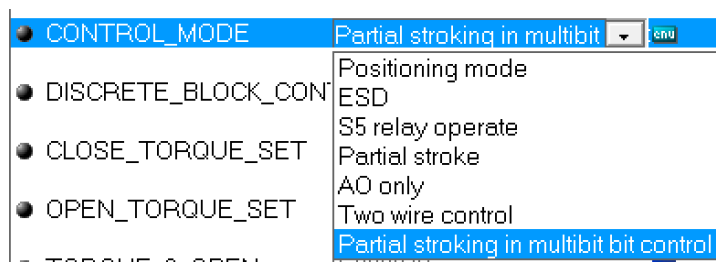

Fig 6.10: DO4 options as shown in the TB
2. The DO4 block options will appear as shown in Fig 6.10.